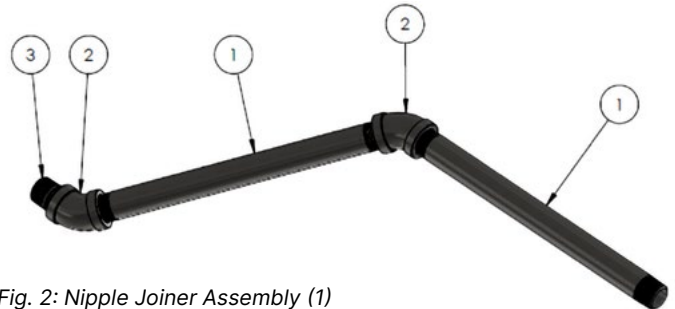

Fig. 2: Nipple Joiner Assembly (1)
- The Nipple Joiner Assembly (Fig. 2) can be assembled outside of the tank.